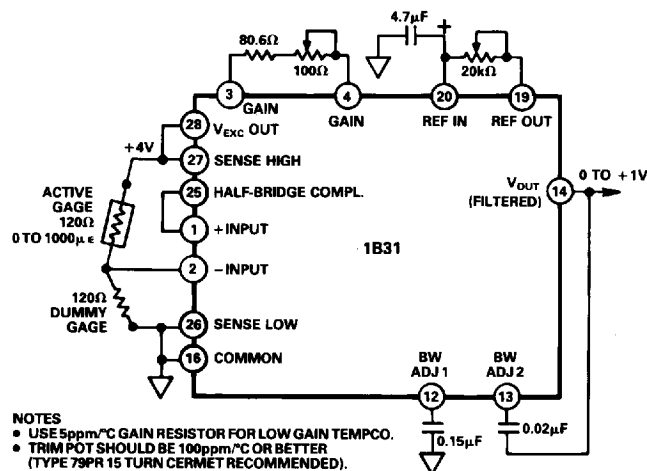

Figure 15. Strain Gage Application Using Internal Half-Bridge
**Strain Measurement:** The 1B31 is shown in a strain measurement system in Figure 15. A single active gage ( $120\Omega$ , Gage Factor = 2) is used in a bridge configuration to detect fractional changes in gage resistance caused by strain. An equivalent resistance